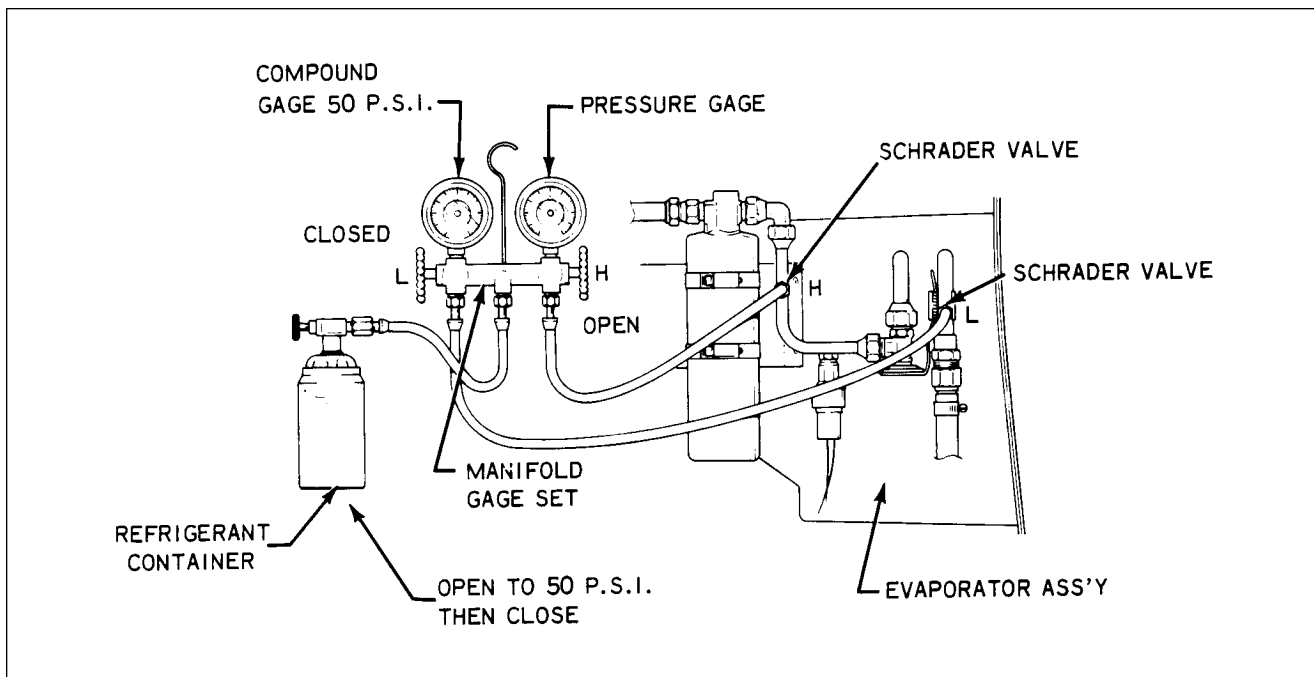

Figure 14-5. Leak Test Hookup
- Connect the manifold gauge set into the system and determine if there is any refrigerant in the system. A minimum of 50 psi refrigerant pressure in the system is needed for leak detection. (Refer to Figure 14-5.)